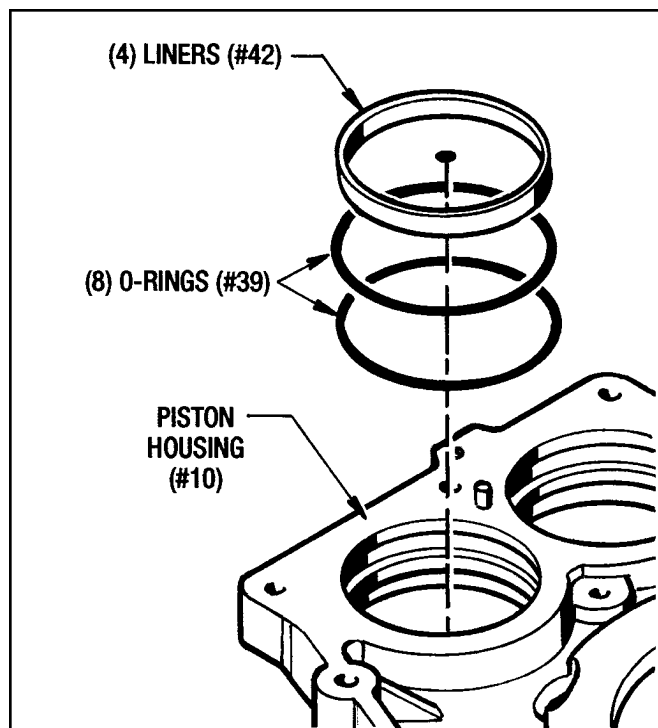

Figure 9.4 - Installing Piston Seals
1. Install the (8) O-Rings (#39) and (4) Piston Liners (#42) into the (4) piston bores. (See *Figure 9.4*)